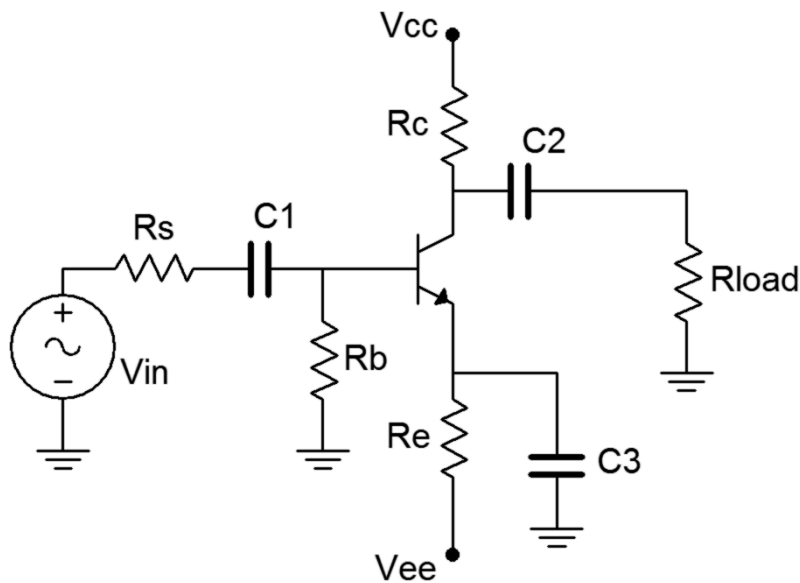

Figure 1
1. The circuit of Figure 1 is the same as the one used in the Common Emitter Amplifier exercise. The values used were  $V_{cc} = 15$  volts,  $V_{ee} = -12$  volts,  $R_s = 10\text{ k}\Omega$ ,  $R_b = 33\text{ k}\Omega$ ,  $R_e = 22\text{ k}\Omega$ ,  $R_c = 15\text{ k}\Omega$ ,  $R_{load} = 20\text{ k}\Omega$ ,  $C_1 = C_2 = 10\text{ }\mu\text{F}$  and  $C_3 = 470\text{ }\mu\text{F}$ . It was shown that the amplifier produced considerable voltage at 1 kHz. Build the circuit using these values and verify that it is operating correctly by setting  $V_{in}$  to a 40 mV peak-peak sine wave at 1 kHz and measuring  $V_{out}$ . Compute the voltage gain and record these two values in Table 1.